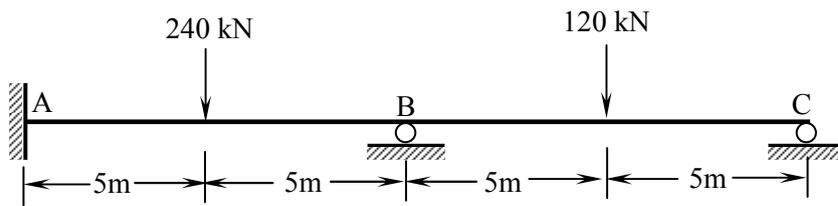

Figure 4.
- Q.4 (a)** Formulate the stiffness matrix (S) and load vector (A_D - A_{DL}) for the structure shown in the Figure 4. Take EI constant. **07**
- Q.4 (a)** Formulate the flexibility matrix (F) and D_{QL} vector for the structure shown in the Figure 4. Assume reactions at supports B and C as redundants. Take EI constant. **07**